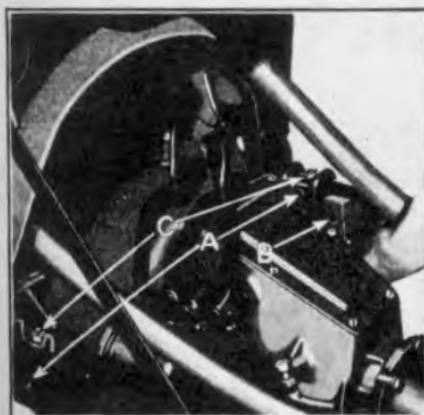

Fig. 31
- 32 **Remove crankcase arm blocks** by running off nuts from ends of the two crankcase arm bolts—side (See "A" Fig. 31). Crankcase side arm blocks "B" can then be slipped from behind crankcase arms and lifted out of channel of frame.